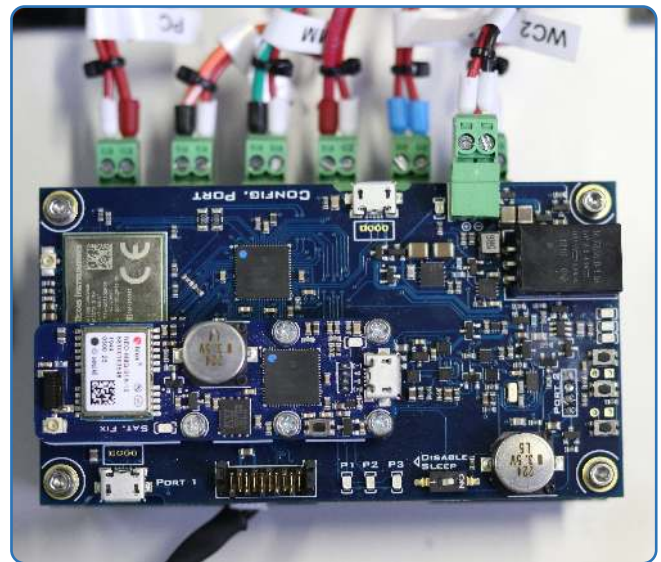

Figure 12: Fixing the top part
2. Plug the bottom-top bridge and add carefully the top floor and fix it with screws (figure 12)